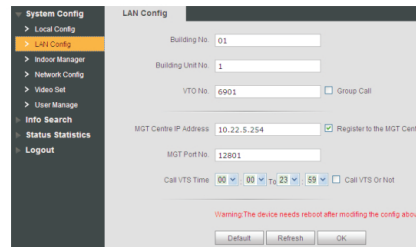

Figure 5– 1
Step 2 In LAN Config, check register to the MGT center, as in Figure 5– 1.